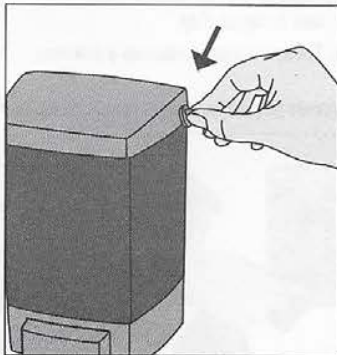

figure 1
**ClearVu® -** To open the dispenser lid, insert key into slot at back, right side of lid and push in on key (see figure 1). Back of lid will pop off.